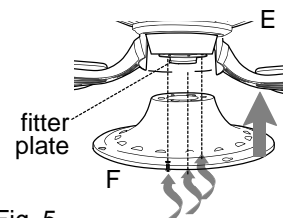

Fig. 5
5. Remove one screw on fitter plate (on underside of motor) and loosen the other two screws. Align slotted holes in shade fitter (F) with loosened screws in fitter plate. Twist shade fitter (F) to lock and re-install screw that was previously removed. Tighten all screws securely. [Fig. 5]